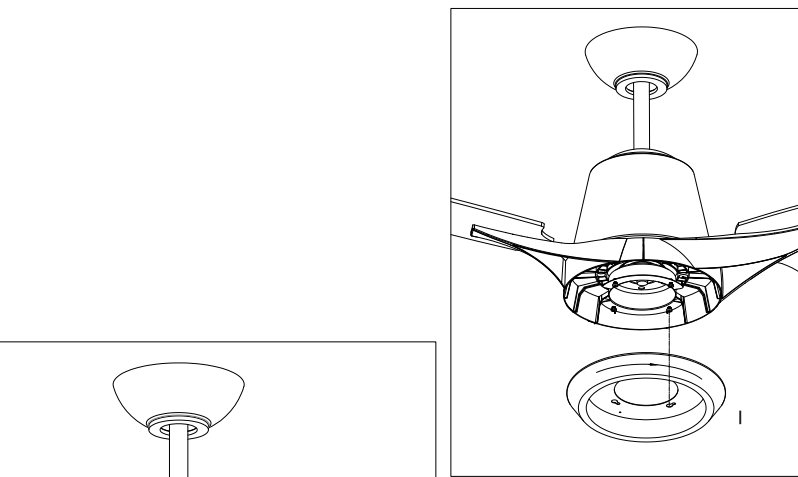

Fig.13
1. Loosen 4 screws from the connecting plate before installing the light kit. (Fig.13)